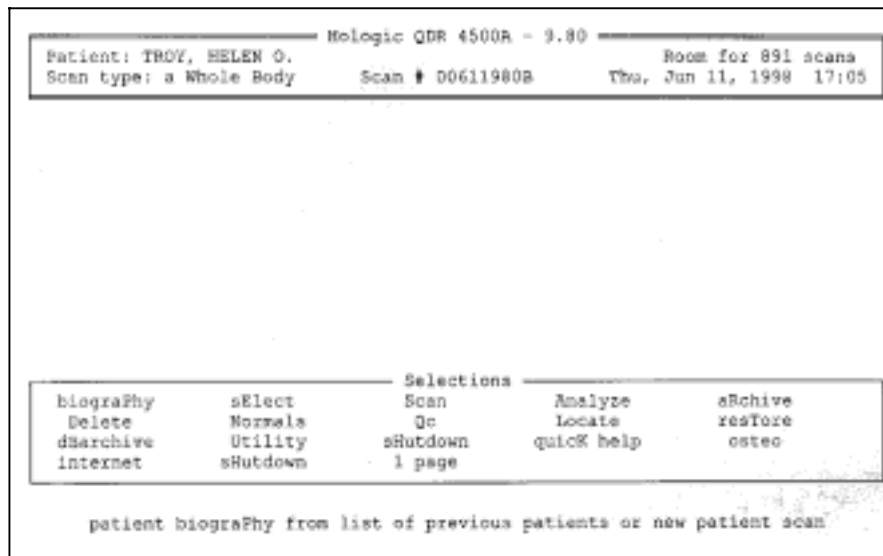

Figure 6-1. Main selections menu
- At the main ‘Selections’ menu (Figure 6-1), highlight QC and press ‘Enter’ (or type ‘Q’).